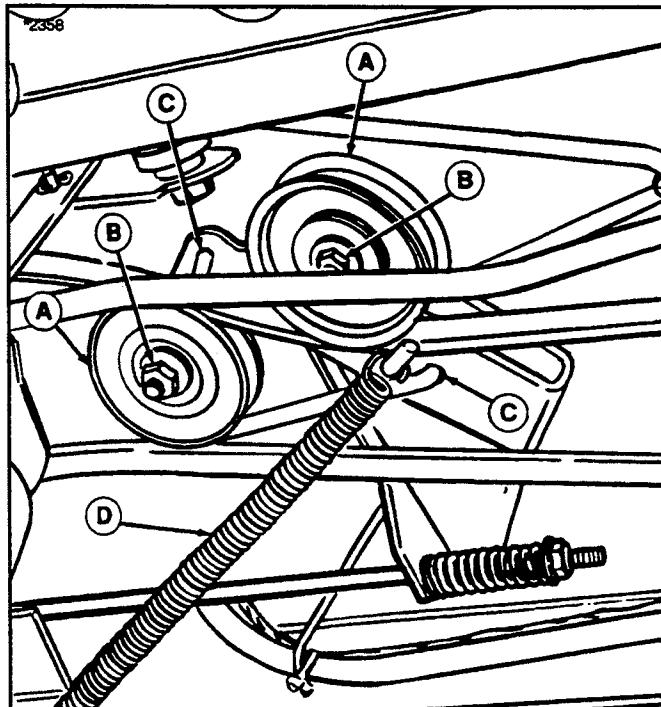

Figure 41. Drive Belt Idler Pulley - Hydro Models
3. See figure 41. To remove the belt from the idler pulley (A), loosen flange whiz nuts (B). Slip belt from between belt stop (C) and idler bracket. Release the parking brake. Rotate idler pulley to relieve spring tension and remove spring (D, figure 41)
10. Re-install idler pulley spring (D, figure 41) to frame with new belt routed between spring and bottom of frame.